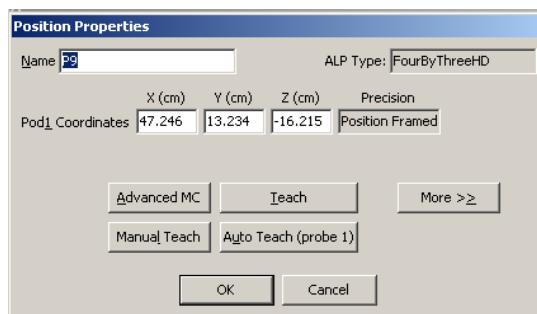

Figure 7. Position properties for framing.
- 2.14 Repeat the process for framing but select the P10 position. Remove any device or piece of labware that might be placed into that ALP position prior to framing it. The window shown in Figure 7 will pop up. The Auto Teach button will now indicate that probe #1 should be used.